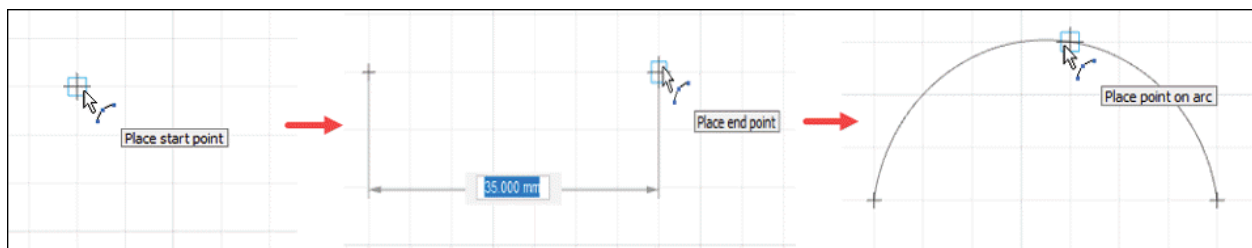

Figure-20. Creation of 3-point arc
- Click on desired location to specify the start point of the arc; refer to Figure-20.